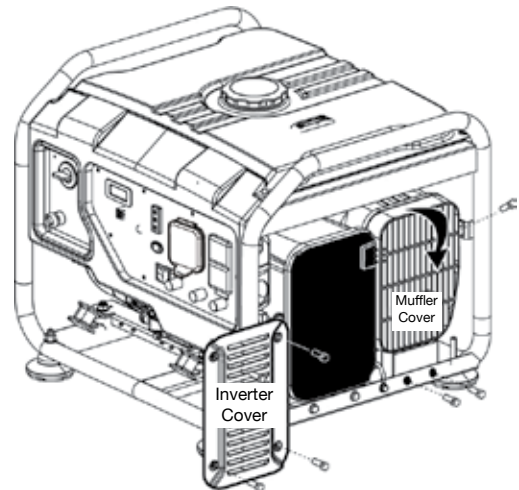

Figure 19: Remove screws holding inverter and muffler cover
3. Remove the screws holding the inverter cover as well as the bolts and screw holding the inverter cover (see Figure 19).